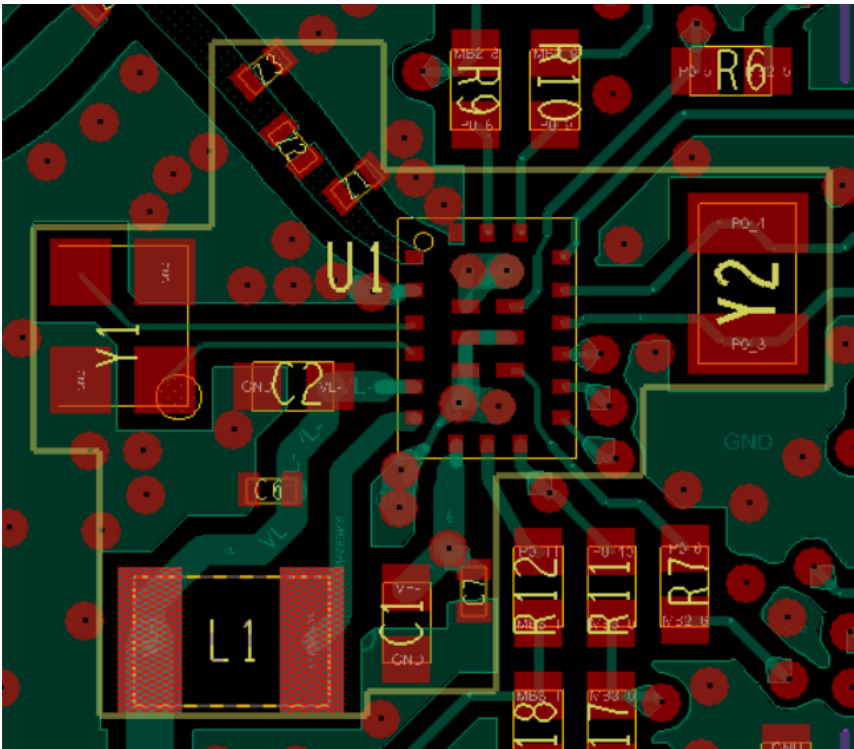

Figure 27: PCB Placement and Routing – Top Layer
- Connect pin 19 to GND with vias as shown in Figure 27
- Short 20, 21, 23 GND pins together and use two GND vias, as shown in Figure 27